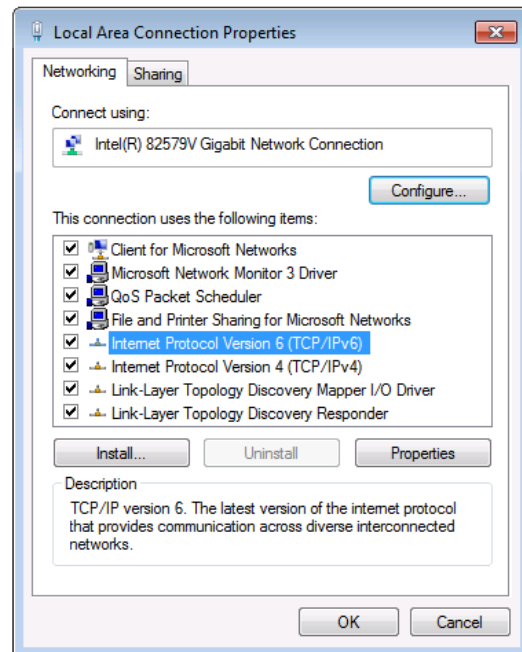

Figure 9: Local Area Connection Properties Window
3. Highlight the network adapter you want to use to connect to the device and click **Change settings of this connection**. The Local Area Connection Properties window for the selected network adapter appears as shown in Figure 9.